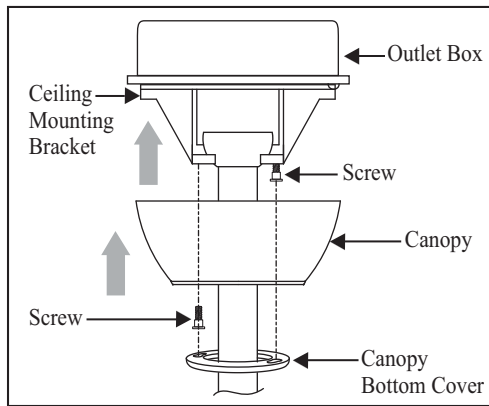

Figure 10
2. Slide the canopy up to mounting bracket and place the key on the canopy over the screw on the mounting bracket, turn canopy until it locks in place at the narrow section of the key holes. (Fig. 10)